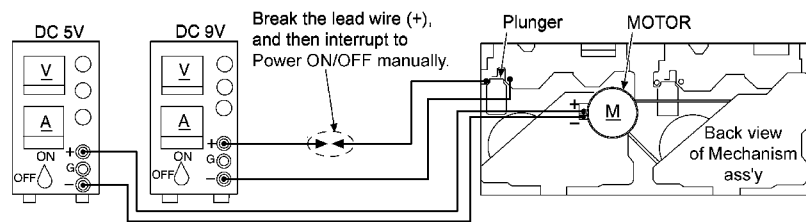

Fig. 14-1.
2. Apply DC 5V to the MOTOR. (MOTOR will be rotated) (Refer to Fig. 14-1.)
4. Apply DC 9V to the plunger, and then operate it by switching power ON/OFF. (Power: +PL, -PL) (Refer to Fig. 14-1.)